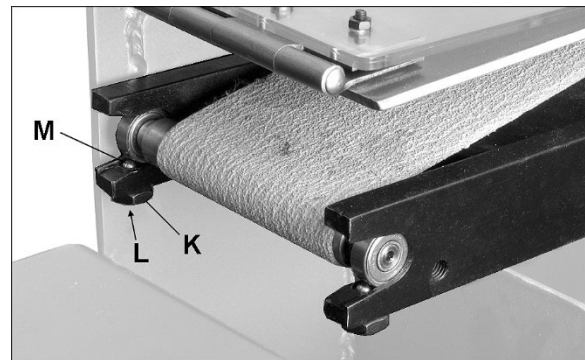

Figure 7-4
3. Loosen hex nuts (K, Figure 7-4) and turn set screws (L) to lower steel balls (M).
5. Raise balls (M) by turning set screws (L), tighten hex nuts (K), and tension belt.